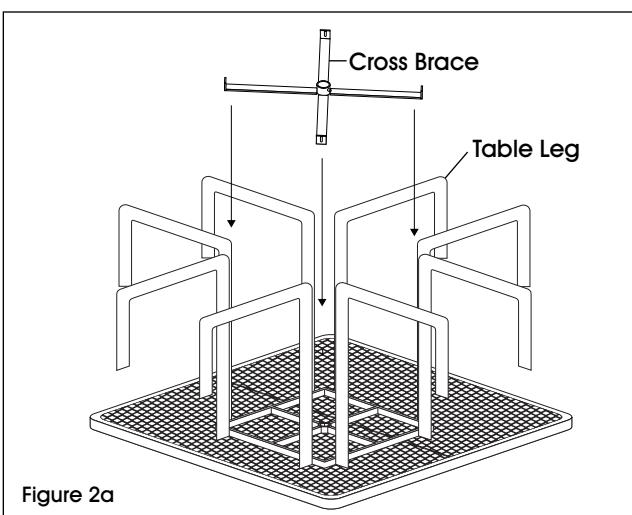

Figure 2a
3. Insert the cross brace with the umbrella holder facing upward and loosely bolt to the corresponding corners using one bolt, two washers and one nut. (See Figures 2a-b)